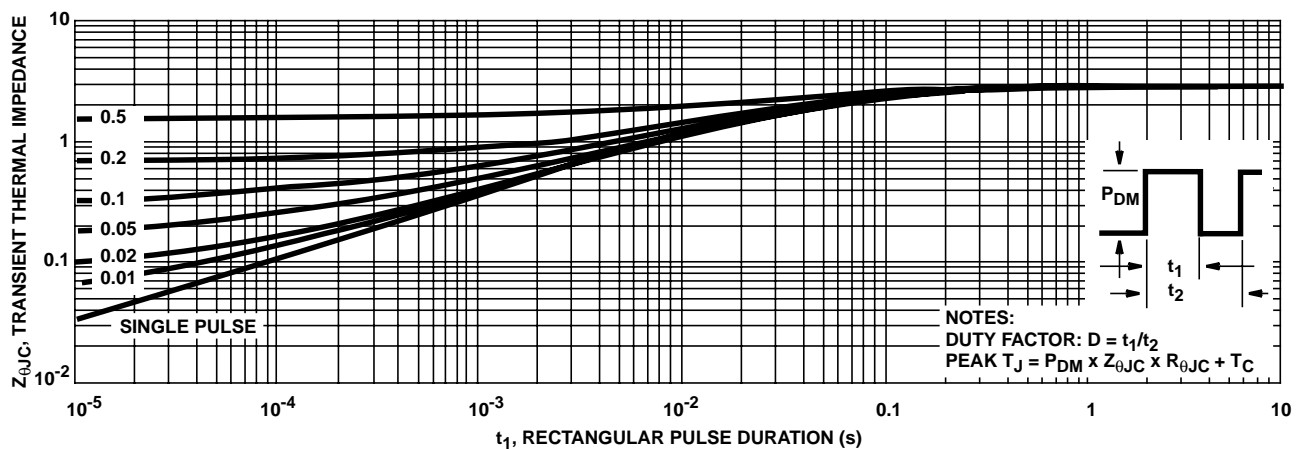

FIGURE 3. MAXIMUM TRANSIENT THERMAL IMPEDANCE
- Repetitive rating: pulse width limited by maximum junction temperature. See Transient Thermal Impedance curve (Figure 3).